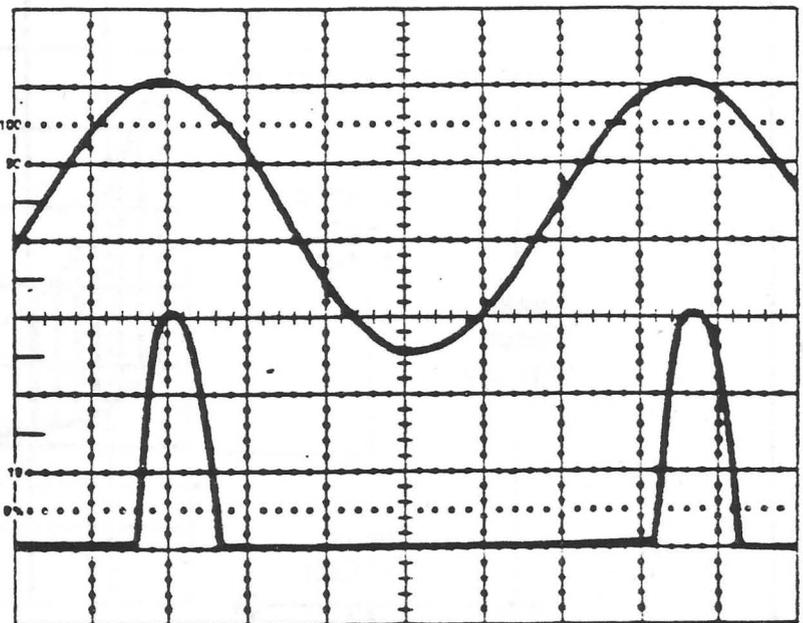

FIGURE 14
4. Adjust the slug of transformer, T4, to center the phase of the waveform at Q31 between the flyback pulses at Q12 as shown in Figure 14.